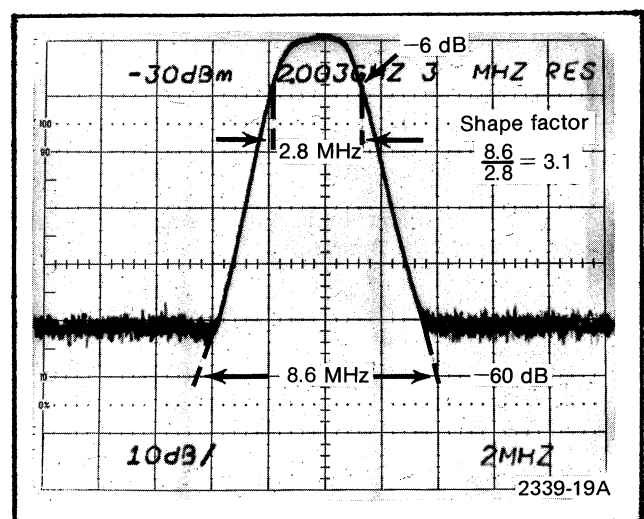

Fig. 3-4. Display mode 10 dB/DIV. Shape factor is ratio of 60:6 dB levels.
e. Estimate the -60 dB bandwidth by extending the slope of the response down through the noise level to the -60 dB graticule line. Calculate the shape factor (see Fig. 3-4). Shape factor must equal 4:1 or less.